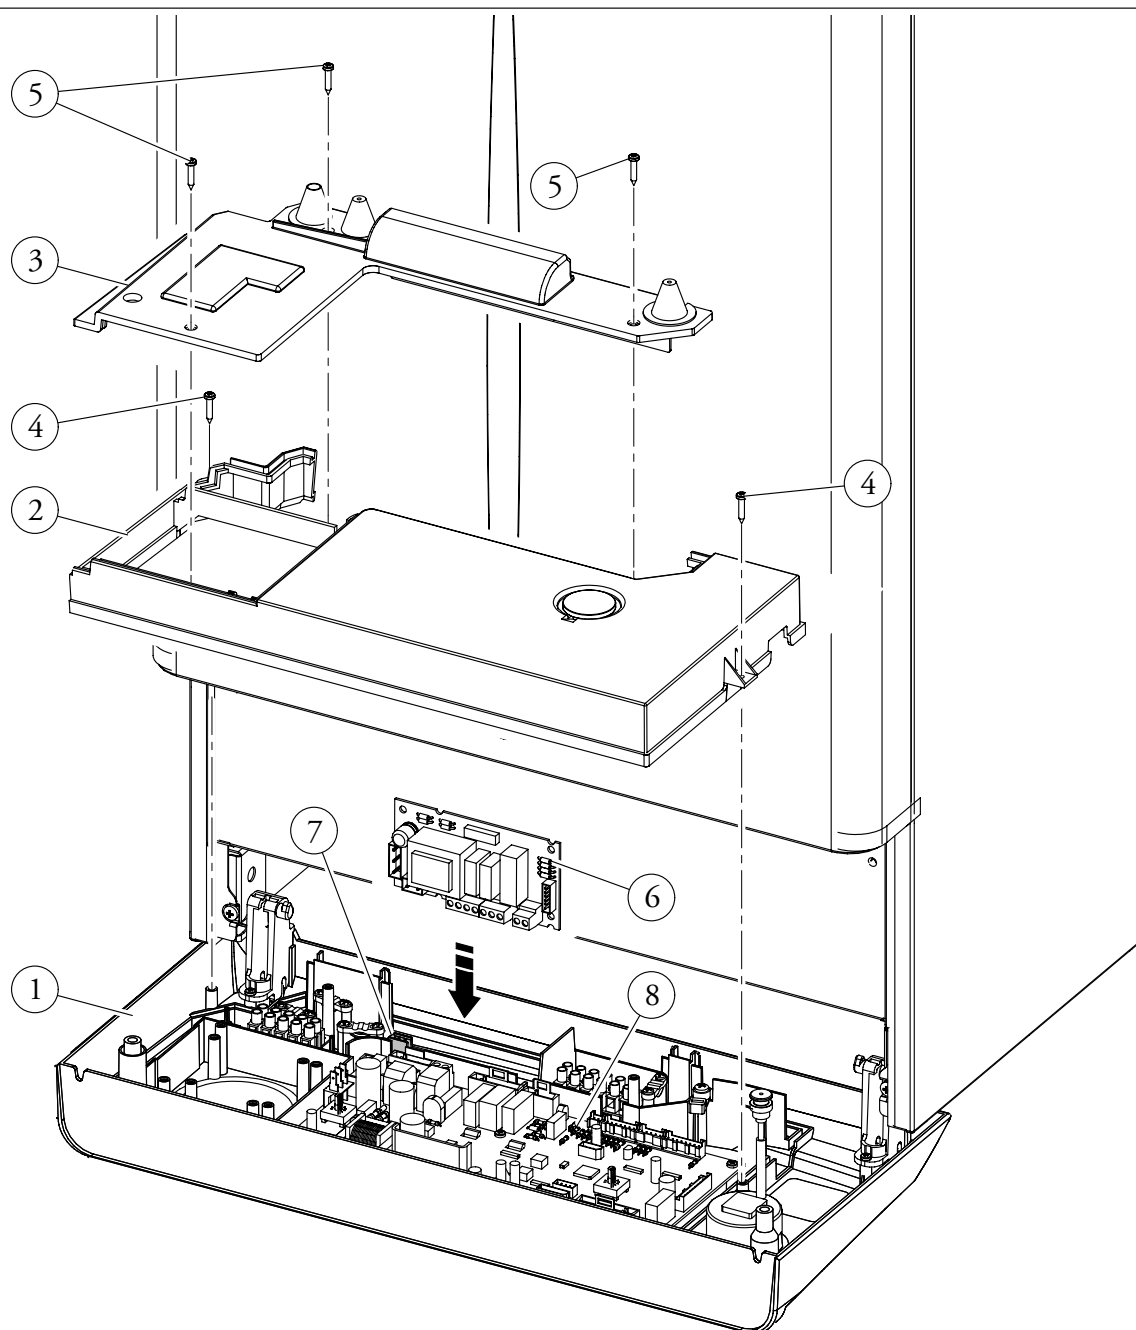

Fig. 6-1
- Open the control panel (1) tilting it as prescribed in the boiler instruction booklet.
- Open the control panel (1) (see Figure 6-1) unscrewing the screws (5) and (4).